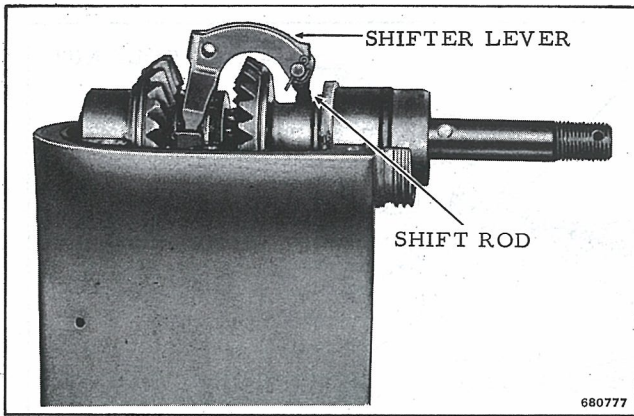

Figure 6-10. Shift Rod Pin and Lever
- d. Install pinion gear and propeller shaft assembly in gearcase. Seat front bearing and gearcase head on dowel pins in gearcase. Shift rod should be in neutral position to align pivot screw. Place cradle in shifter dog and shifter lever in position in cradle. See Figure 6-10.